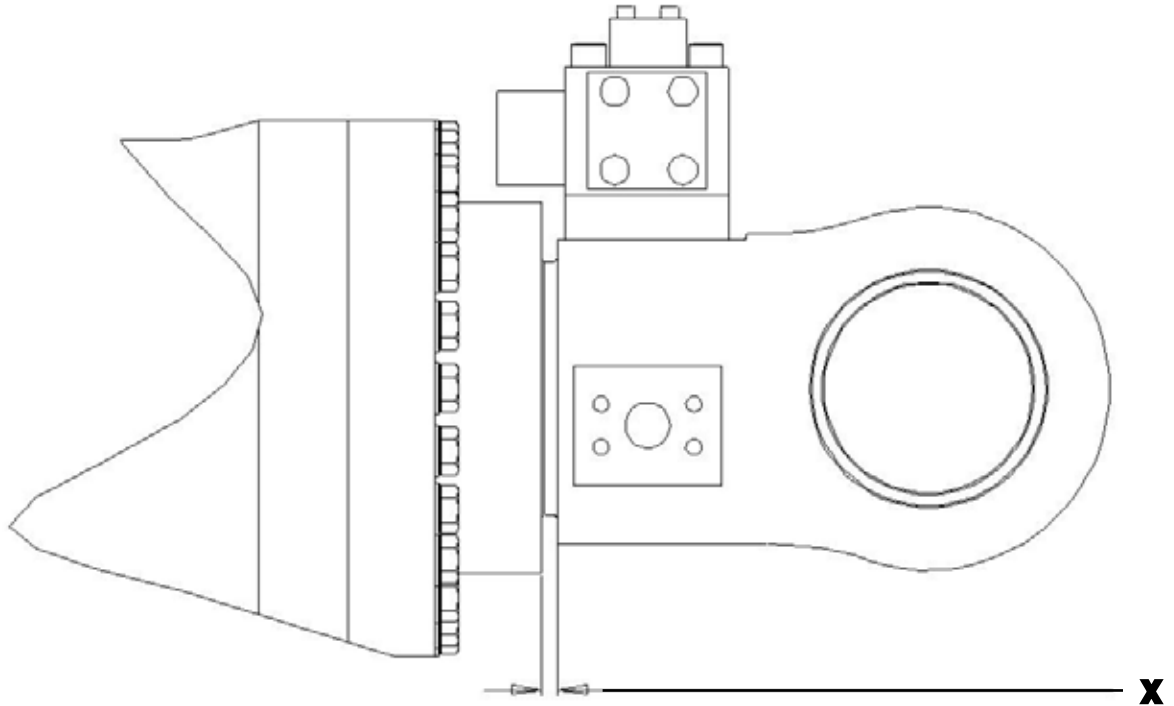

FIGURE 5-43
Periodically check (minimum once per week) the gap between the rod eye shoulder and head face (X) with the cylinder fully retracted (see Figure 5-43). If the gap exceeds the dimensions given in the table, below, by more than .06", it could be an early indication of required maintenance. Stop shear operations and call the LaBounty Service Department: (218)-834-6901.